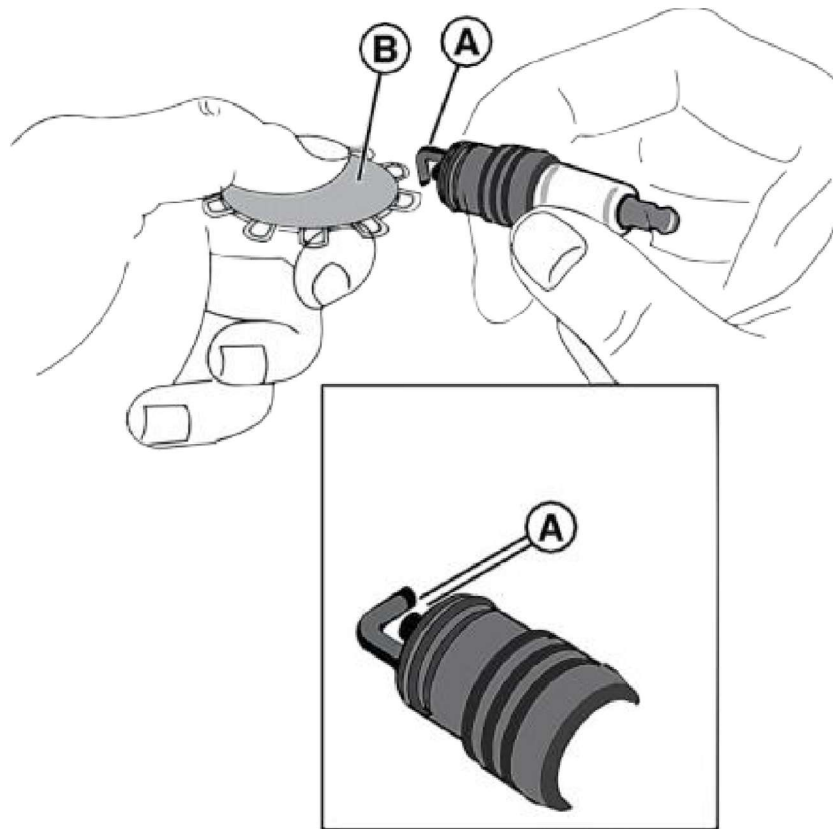

Figure 15
8. Check the spark plug electrode gap using a wire gauge (B+A) (Figure 15). If the spark plug gap is not within specification, replace the plug. The recommended spark plug gap can be found in the Engine Specifications section.